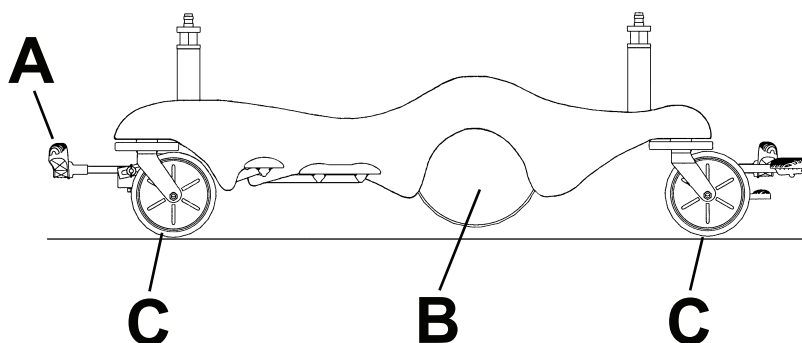

Figure 10 – Transporting without Big Wheel
3. Release the brakes. See *Applying and releasing the brakes* (page 19). Keep the brake/steer pedal (A) in the neutral (horizontal) position (Figure 10).